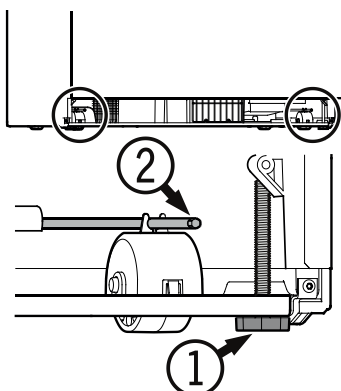

Figure 18
Leveling the Appliance - Figure 18
To prevent the appliance from tipping forward the leveling feet ① (Figure 18) must have contact with the floor.